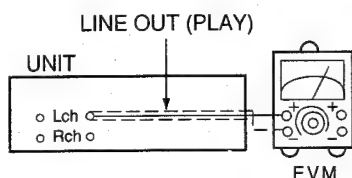

Fig. 7
1. Connect the measuring instrument as shown in Fig. 7.